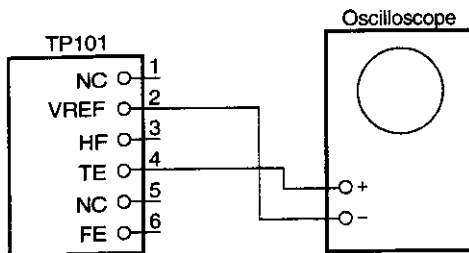

Fig1
6. Press TRACK button (" 0 2 " is displayed), also, press PLAY/PAUSE button. Tracking error signal can be observed with the connection below. (Fig1)